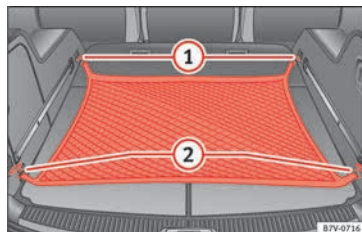

Fig. 174 In the luggage compartment: net used on secured baggage
- Hook the baggage net into the fastening rings **» Fig. 174** ① and ②.
- Carefully unhook the baggage net hooks from the fastening rings **» Fig. 174** ①. **»**
- Carefully unhook the baggage net hooks from the fastening rings » Fig. 174 ②.